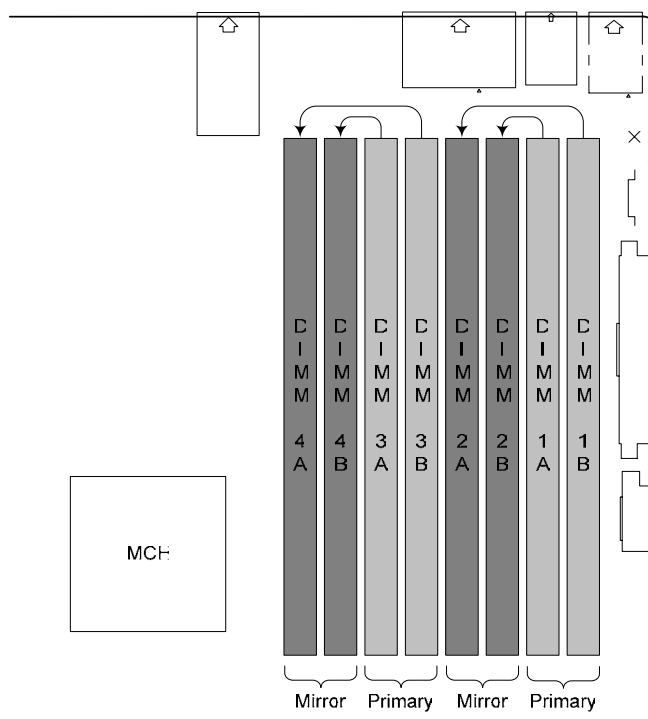

Figure 9. Eight DIMM Memory Mirror Configuration
- An eight-DIMM population uses identical devices in DIMM Banks 1 and 2, and in DIMM Banks 3 and 4. Referring to Figure 9, DIMMs labeled 1A, 1B, 2A, and 2B must be identical and those labeled 3A, 3B, 4A, and 4B must be identical. The first group does not need to be identical to those in the second group.